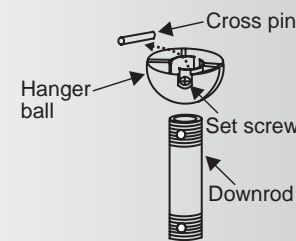

Fig. 8
Step 5. Remove hanger ball from downrod assembly by loosening set screws, removing the cross pin, and sliding ball off rod. (Fig. 8)